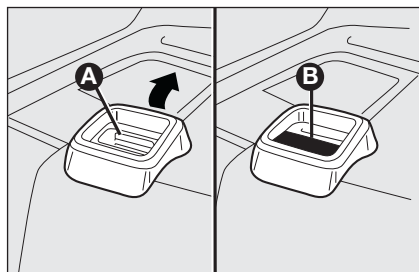

fig. 84
- ☐ raise lever **A**-fig. 84 retaining the backrest and fold it forwards to create an even load compartment. The raising of the lever is shown by a “red band” **B**;